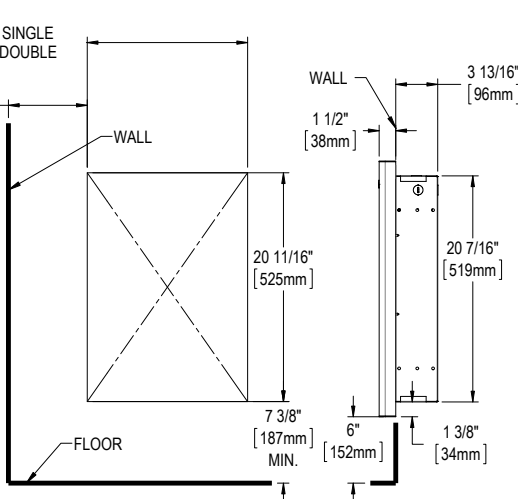

FIG. 2
4. For surface installation, put a wooden plate at the back of the gypsum in order to fix the unit to the wall securely. For the wooden plate dimensions, refer to the opening for the recessed application (see figures 2 and 3). Use the same dimensions for ceiling application (CF).
1. The opening in the wall must be made in accordance with acceptable standards (see figures 2 and 3, and Warning).